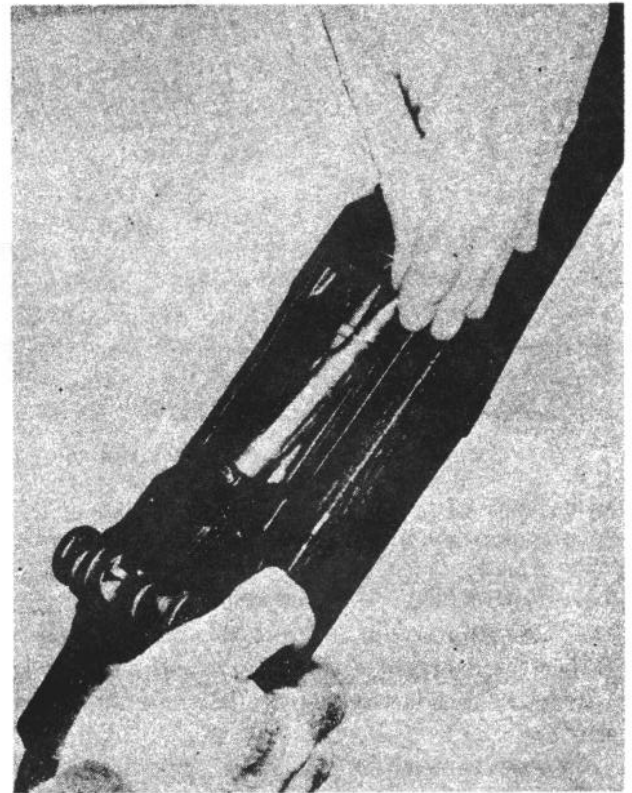

Figure 21. Unloading a round from the chamber.
a. To unload a round from the chamber, support the rifle butt on the thigh or on the ground; with the right hand grasp the operating rod handle and pull the operating rod slowly to the rear. At the same time, place the left hand, palm down, over the receiver to catch the round as it is ejected (fig. 21). This keeps the round from falling into the dirt or away from your position.